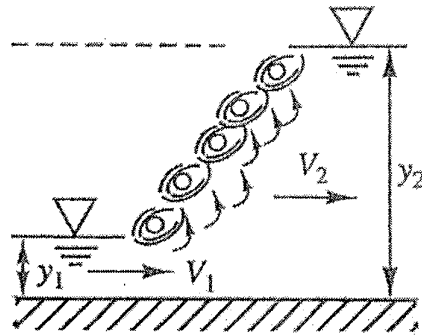

Figure 3. Hydraulic Jump
- (a) Considering a control volume in the vicinity of a hydraulic jump (Fig. 3), derive the following equation with symbols having their usual meaning. **[10 Marks]**